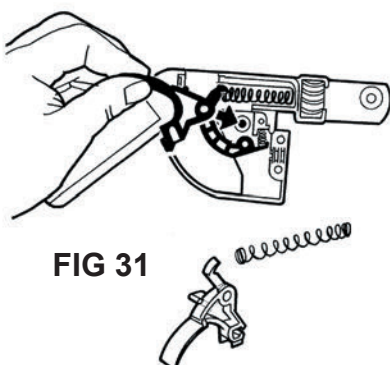

FIG 31
3. Fit throttle then compression spring, then switch and throttle cable (Fig 31/32). Note forward position of throttle spring fits over retainer post.